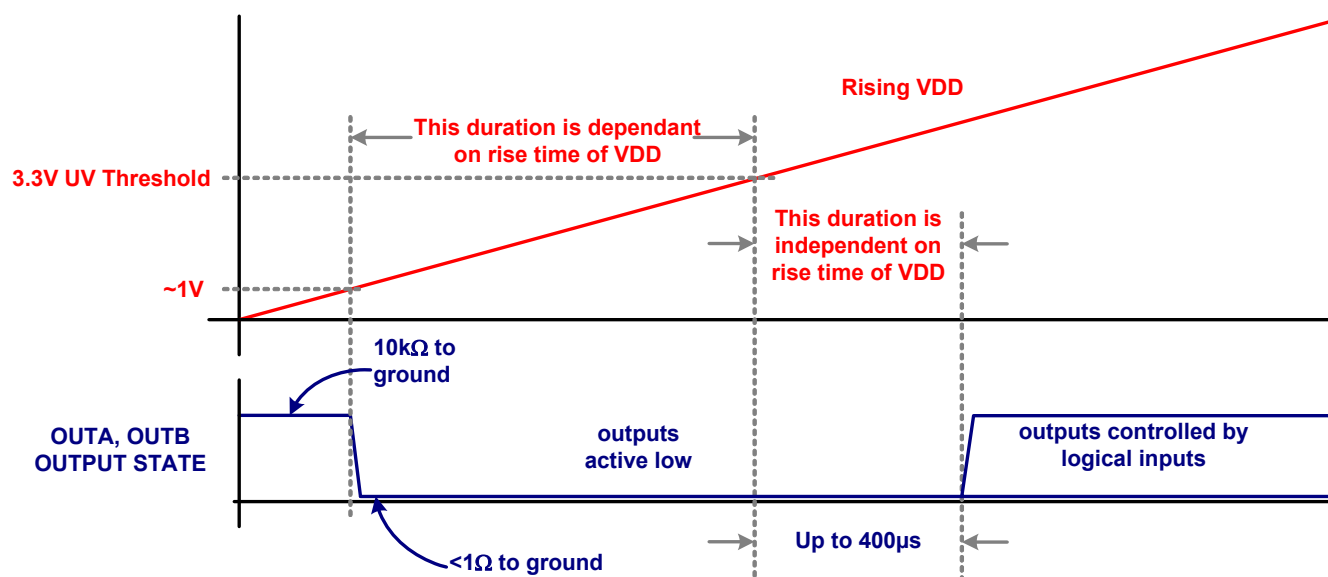

FIGURE 9. START-UP SEQUENCE
- A 400 μs delay further inhibits the release of the output state when the UV positive going threshold is crossed. See Figure 9.
The start-up sequence for is designed to prevent unexpected glitches when V_{DD} is being turned on or turned off. When $V_{DD} < \sim 1V$, an internal $10k\Omega$ resistor connected between the output and ground, help to keep the gate voltage close to ground. When $\sim 1V < V_{DD} < UV$, both outputs are driven low while ignoring the logic inputs. This low state has the same current sinking capacity as during normal operation. This insures that the driven FETs are held off even if there is a switching voltage on the drains that can inject charge into the gates via the Miller capacitance. When $V_{DD} > UVLO$, and after a $400\mu s$ delay, the outputs now respond to the logic inputs. See Figure 9 for complete details.